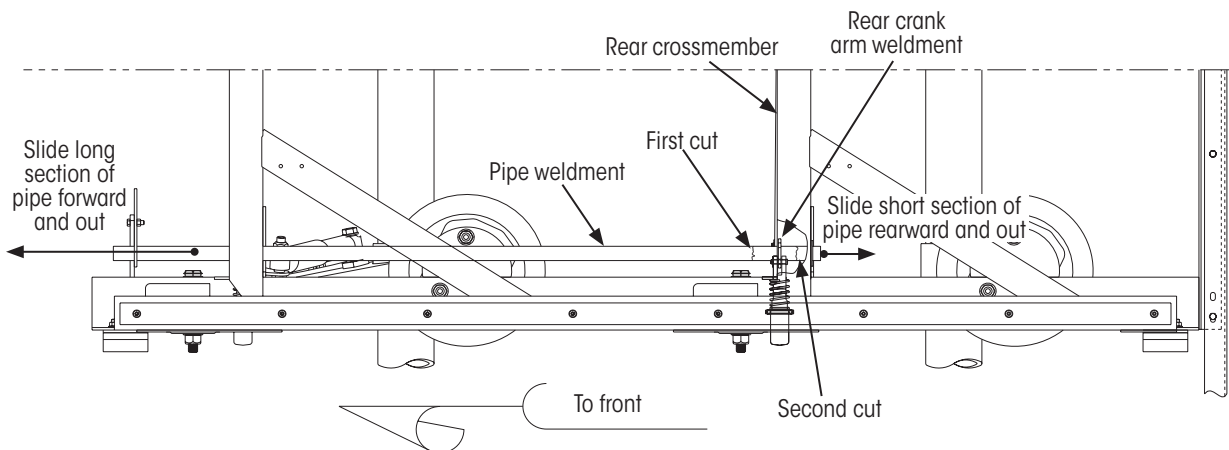

Figure 10: Removing pipe weldment
1. **Cut** the pipe weldment in half directly in front of the rear crank arm weldment (Figure 10).
2. **Remove** the long front section of pipe weldment by pulling it out from the front of the slider assembly (Figure 10).
3. **Cut** the pipe weldment in half again, this time between the rear crank arm weldment and the rear crossmember (Figure 10).
4. **Remove** the short section of pipe weldment by pulling it out from the rear of the slider assembly (Figure 10).